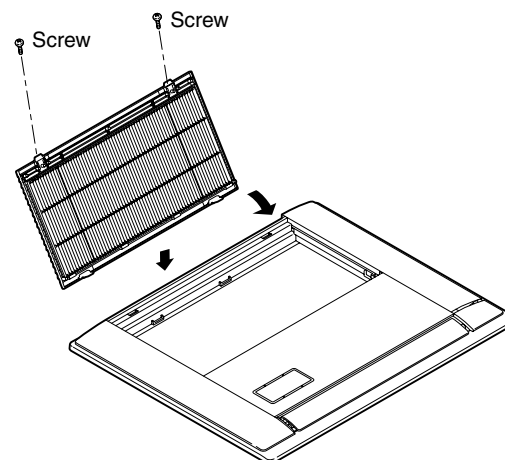

Fig. 3-83
- (2) Fasten the side panel onto the ceiling panel using the supplied screws (4 × 12 or 5/32" × 15/32").
- To install the intake grille, follow the procedure for removing it in the reverse order. (Fig. 3-83)
- When installing the intake grille, be careful that the flap lead wire does not become pinched. (Fig. 3-83)